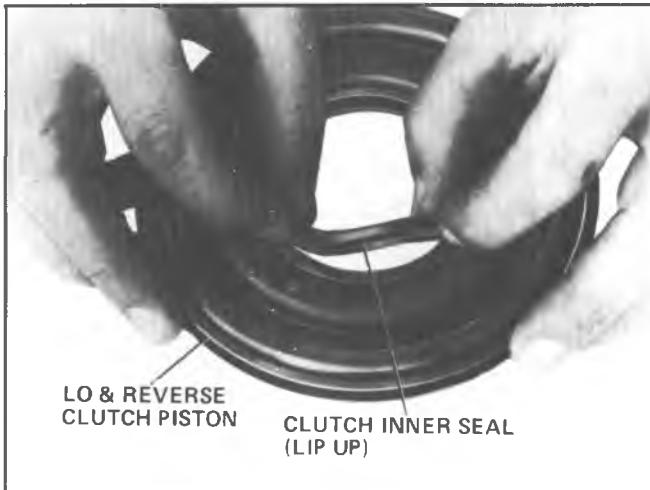

Fig. 7A-76A--Removing or Installing Low and Reverse Clutch Inner Seal
e. Using feeler gauge, determine distance between gauge pin on J-25023-2 and top edge of housing (Fig. 7A-78A). See Selective Spacer chart (Fig. 7A-79A) to determine proper selective spacer.